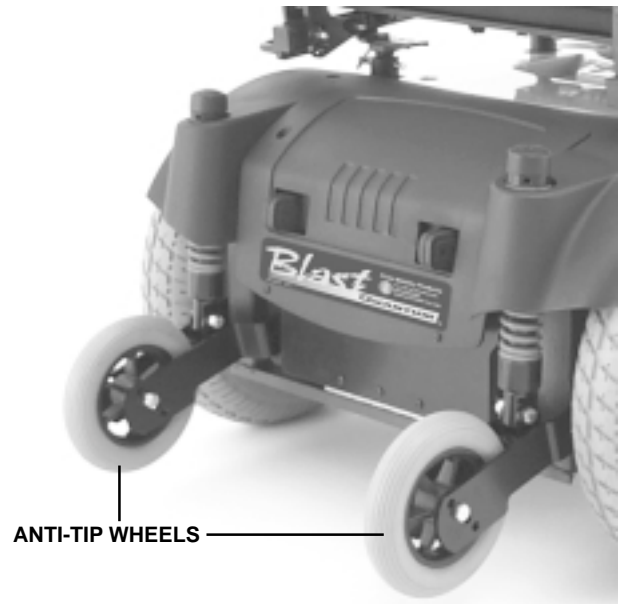

Fig. 13. Anti-tip Wheels
Your Blast is equipped with spring-loaded rear anti-tip wheels, which travel up and down to prevent them from catching on obstacles. Additionally, the anti-tip wheels are linked to the drive wheels and actively react to sudden rearward weight shifts, enhancing stability and safety. See figure 13.
1. Remove the anti-tip axle bolt and nylon spacers using two, ½-in. spanners. See figure 13.